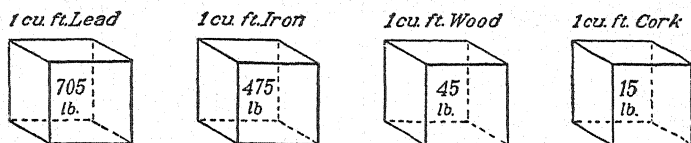

FIG. 61. — The density, or weight per unit volume, varies.
**61. What Is Meant by Density?** Suppose we have given blocks containing exactly 1 cu. ft. of each of the following: lead, iron, wood, and cork. If we weigh each one in turn, we find that the weights are decidedly different. (See Fig. 61.) Lead is dense and heavy; cork is exceptionally light. *The weight of unit volume of a substance is called its density.* The unit volume chosen for the English system is usually 1 cu. ft.; in the Metric system, it is 1 c.c. Hence, density is expressed in *lb. per cu. ft.*, or in *gm. per c.c.* If we use the letter  $D$  to represent density and the letters  $W$  and  $V$  to represent weight and volume respectively, then we can find the density by dividing the weight by the volume.